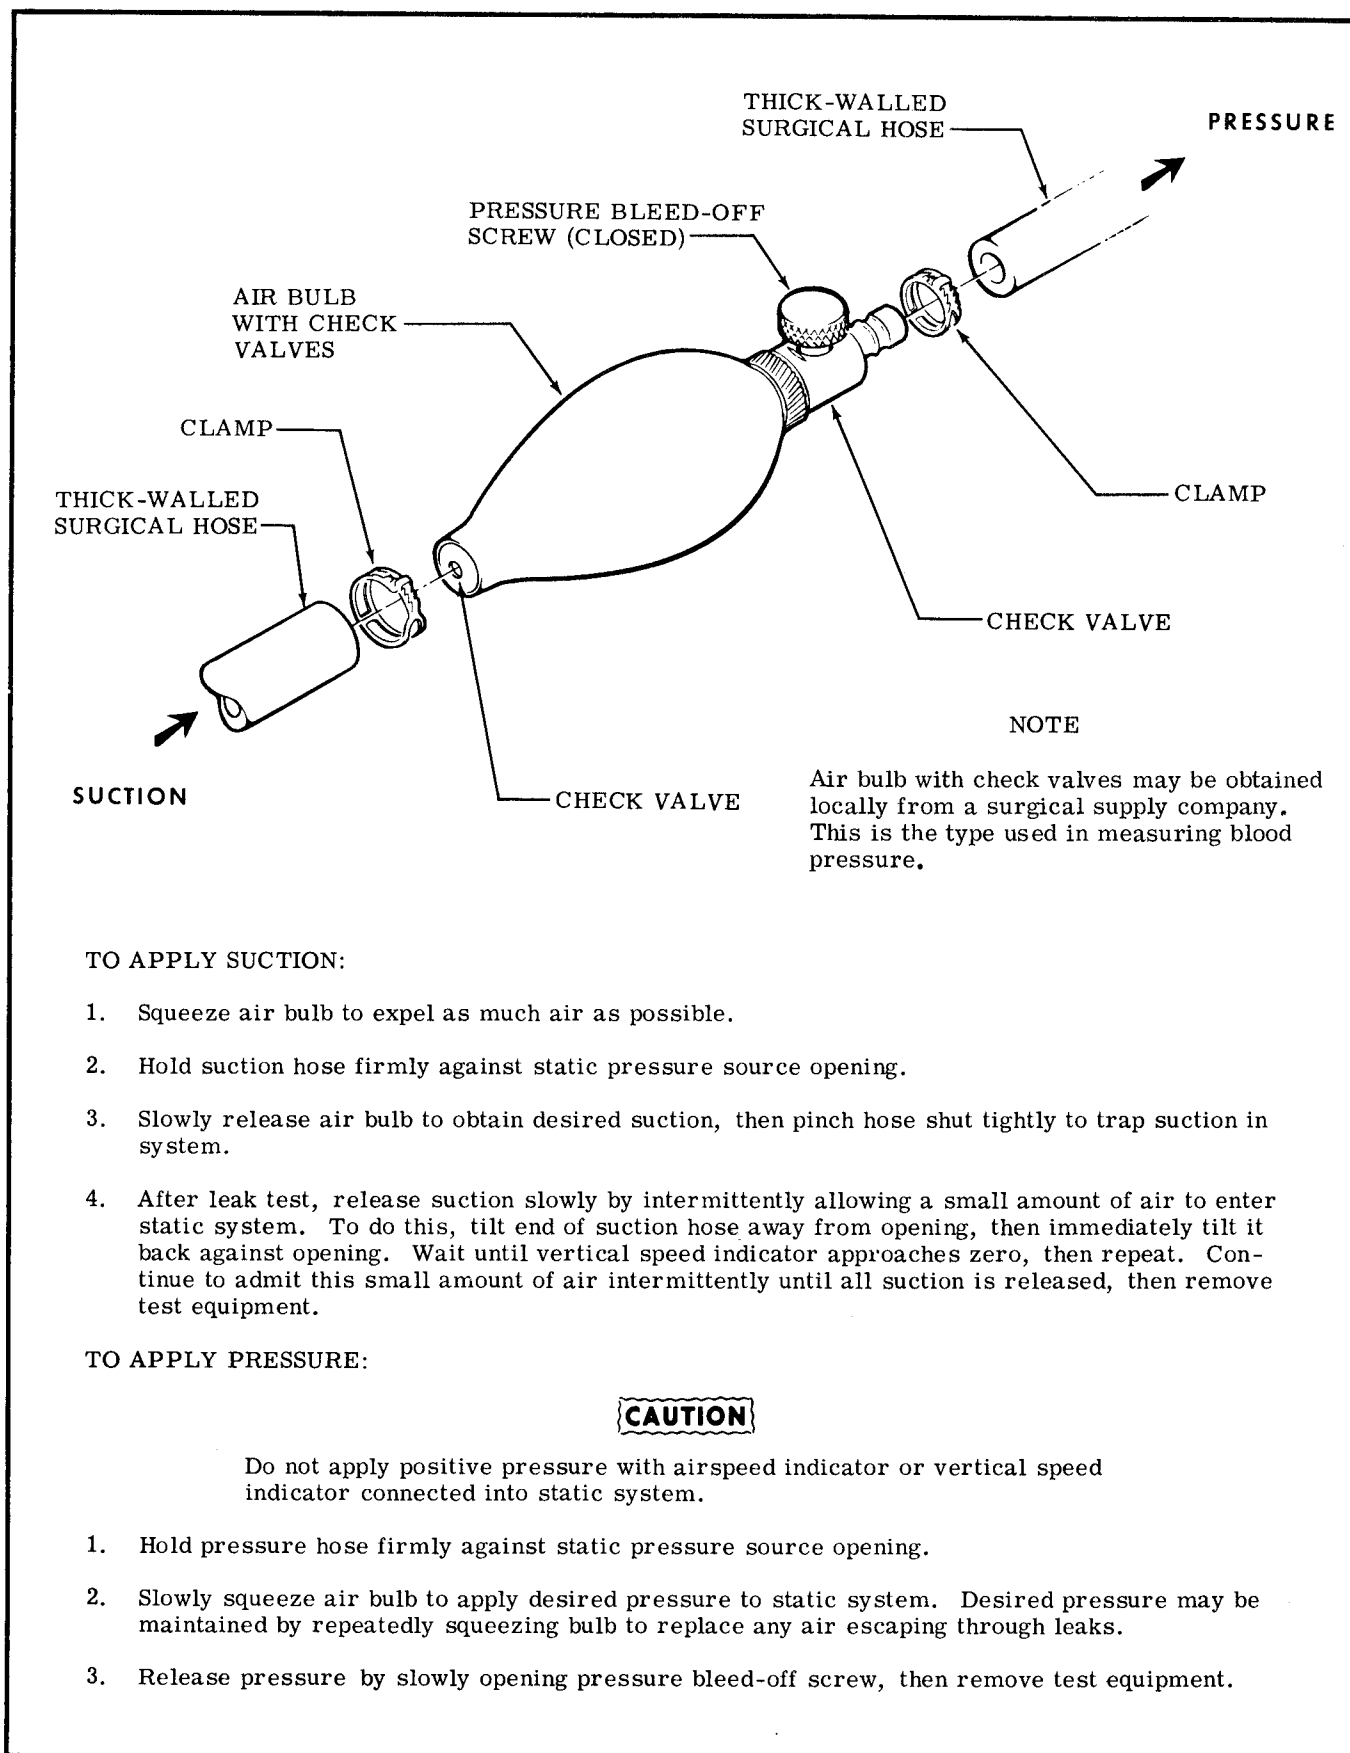

Figure 15-5. Static System Test Equipment
- e. Attach a source of suction to remaining static pressure source opening. Figure 15-5 shows one method of obtaining suction.
- k. Attach a source of positive pressure to static source opening. Figure 15-5 shows one method of obtaining positive pressure.